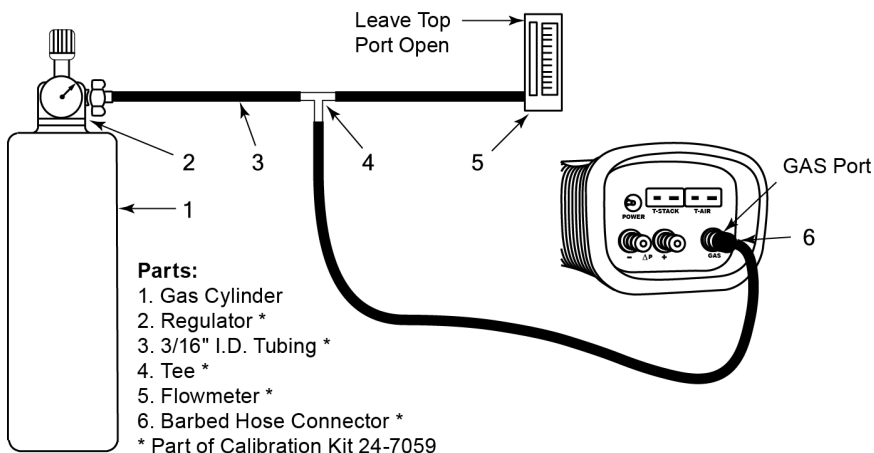

Figure 6-12. Gas Sensor Calibration Equipment
3. Attach a 500 ppm CO cylinder to the regulator of the calibration fixture shown in Figure 6-12 on page 76.
3. Attach a 100 ppm SO₂ cylinder to the regulator of the calibration fixture shown in Figure 6-12 on page 76.
3. Attach a 250 ppm NO cylinder to the regulator of the calibration fixture shown in Figure 6-12 on page 76.
3. Attach a 100 ppm NO₂ cylinder to the regulator of the calibration fixture shown in Figure 6-12 on page 76.
3. Attach a 4,000 ppm CO cylinder to the regulator of the calibration fixture shown in Figure 6-12 on page 76.